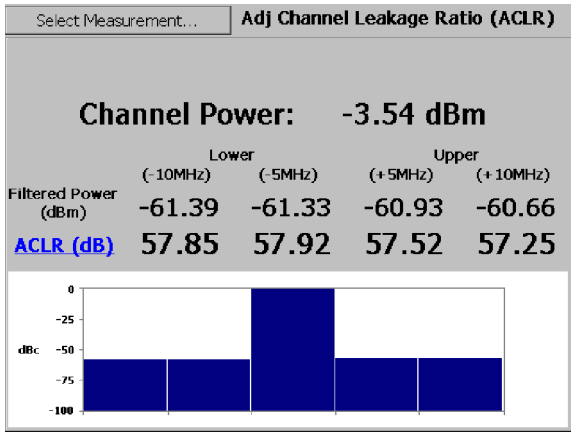

Figure 3-61: A typical ACLR display
4. Tap **ACLR**. See Figure 3-61.